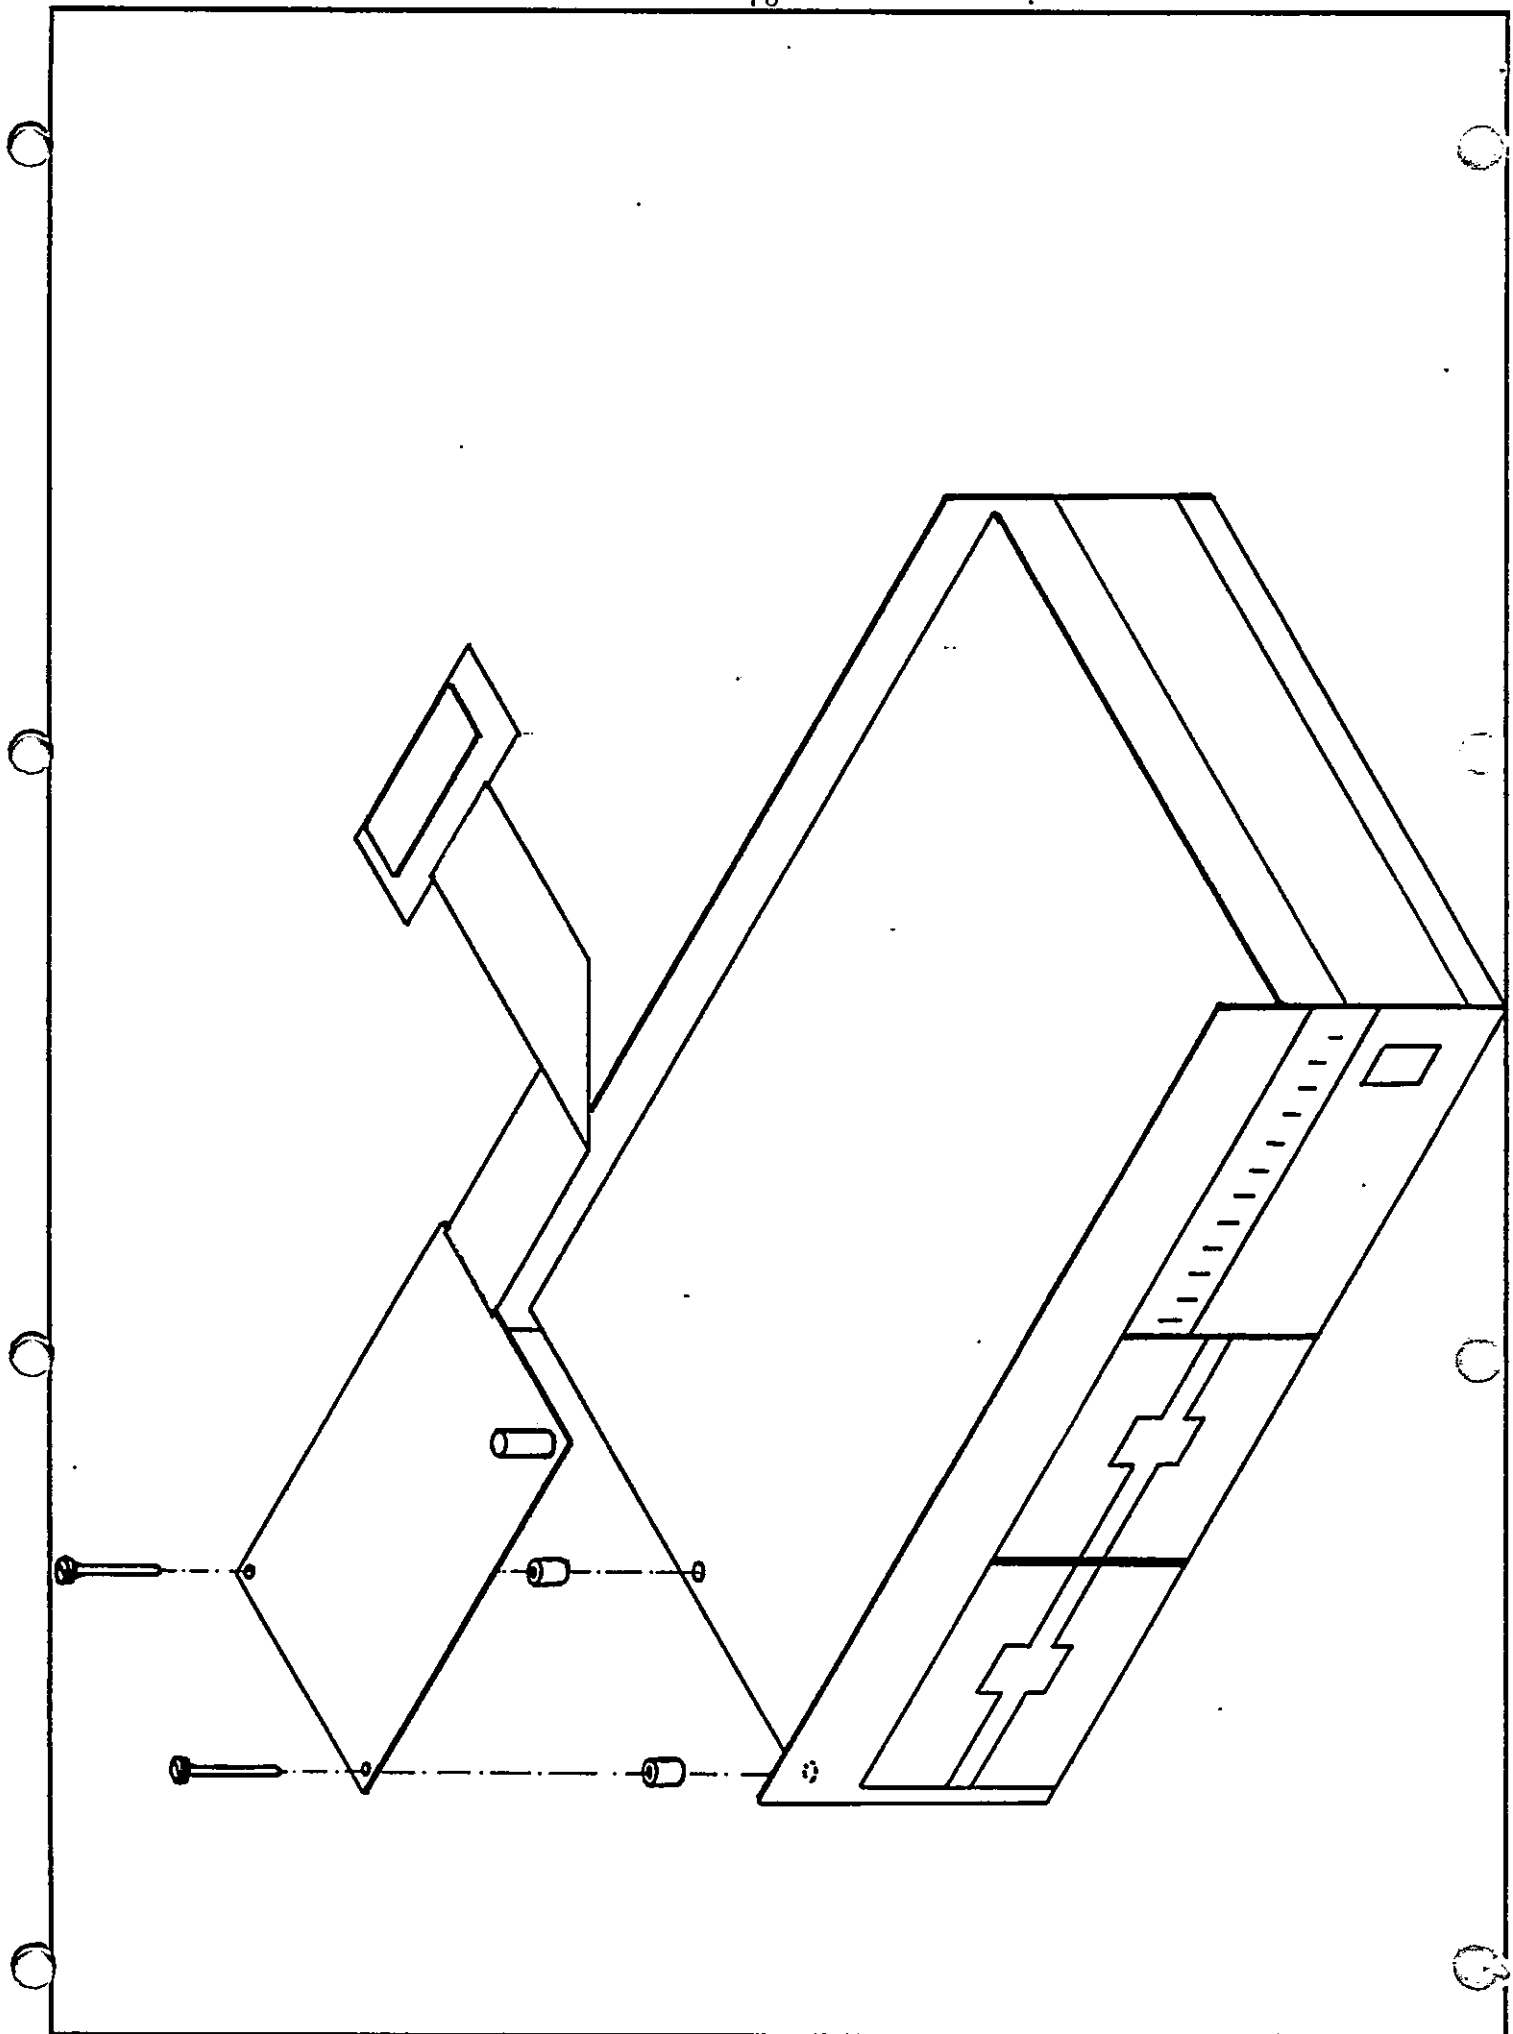

Fig. 6. Mounting the Graphic Board
13. Insert the graphic board as shown on fig. 6. Use the same type of screws, as unplugged in 3.